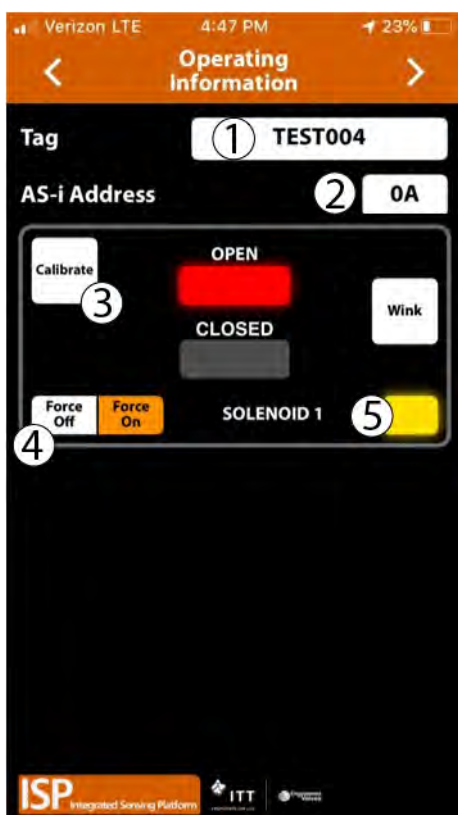

Figure 3: Device detail
To change the **tag number**, edit the existing tag in the associated text field (Item 1 in Figure 3: Device detail on page 3). The tag can be up to sixteen characters long.
To change the **AS-i address**, edit the existing address in the associated text field (Item 2 in Figure 3: Device detail on page 3). The AS-i address can be 1A to 31A or 1B to 31B.
To change the **DeviceNet address**, edit the existing address in the associated text field (Item 2 in Figure 3: Device detail on page 3). The DeviceNet address can be 0 to 63. There is also an option to change the Baud Rate to 125k, 250k, or 500k.
Forcing the solenoid on/off (Item 4 in Figure 3: Device detail on page 3)
When the solenoid control is forced on an indicator turns orange (Item 5 in Figure 3: Device detail on page 3).
1. Touch Calibrate (Item 3 in Figure 3: Device detail on page 3). Accept the Warning prompt (see above), or cancel.